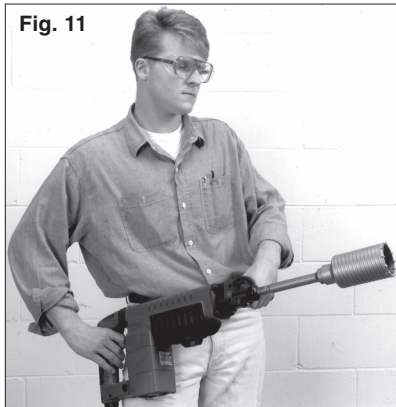

Fig. 11
6. To change the core bit, hold the tool upwards, pointing it away from your body as shown, and run it briefly in forward to loosen the core bit from the adapter (Fig. 11).